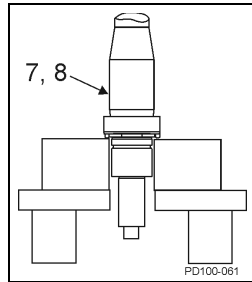

Figure 45 - Grease Shaft
1. Lubricate front bearing area of shaft (Figure 45, item 7, 8) with oil or grease. Place upright in hydraulic press with liquid end down.